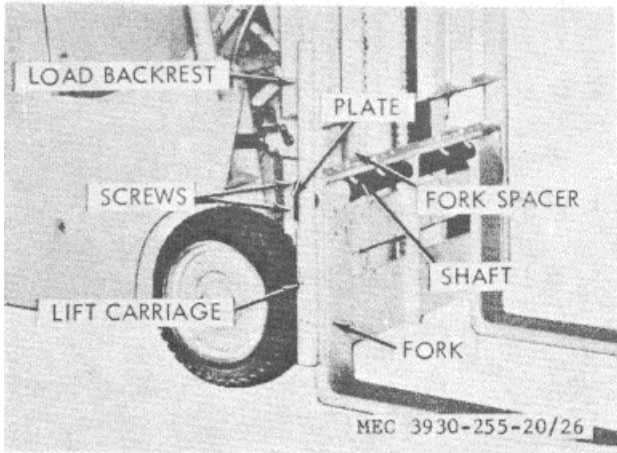

Figure 26. Fork removal.
- (1) Lower carriage fully, and lift load backrest from carriage (fig. 26).
- (2) Lift spacers from carriage. Remove screws, washers, and one plate from carriage. Hold forks so they don't fall and draw shaft from carriage. Forks are now free. Remove them.